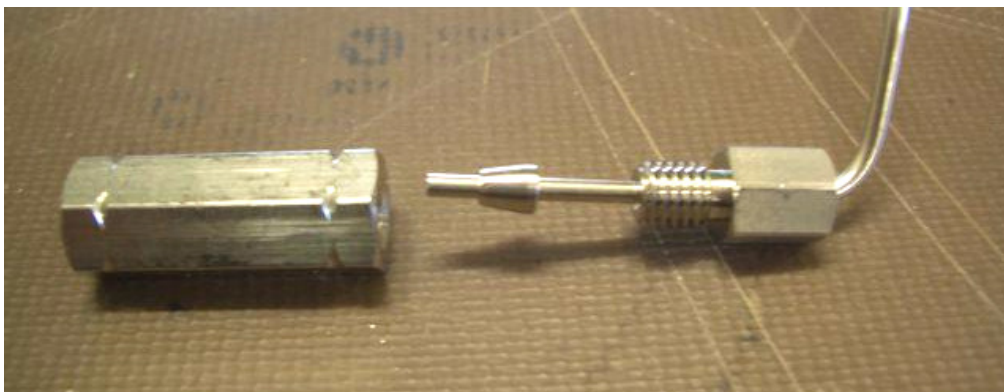

Figure 8: Ferrule Seating Tool (union)
1. Use the pictured Ferrule Seating tool (*Fig. 8*) for crimping the ferrule's to the tubing. Make sure that the tubing is held firmly all the way into the tool before tightening **3/4** of a turn from finger-tight.